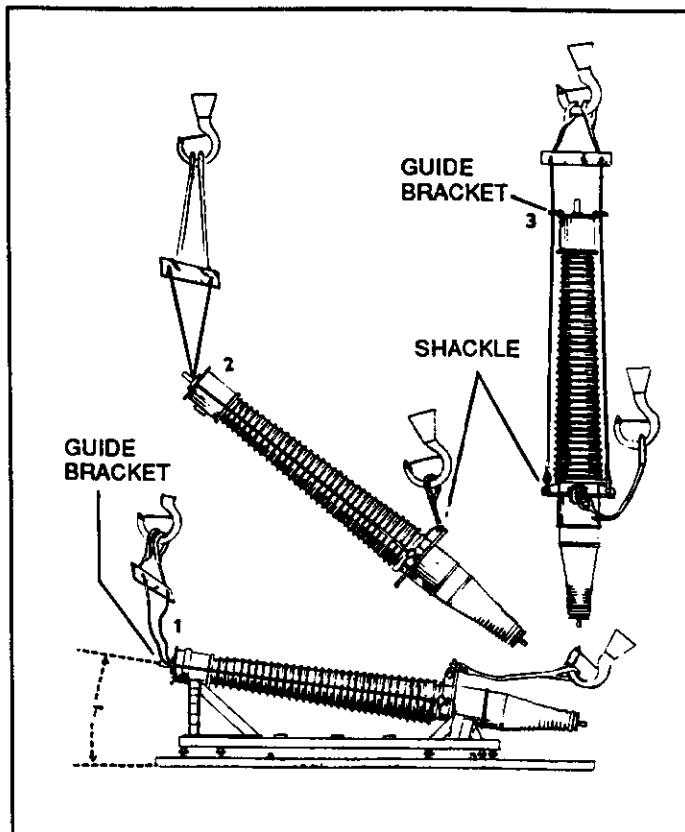

Figure 3A: Method of lifting a bushing rated 500 kV and above.
- These bushings are provided with two guide brackets bolted to the top of the metal dome which should only be used to guide the slings during lifting. Use two crane hooks to lift the bushing as shown in Figure 3A.